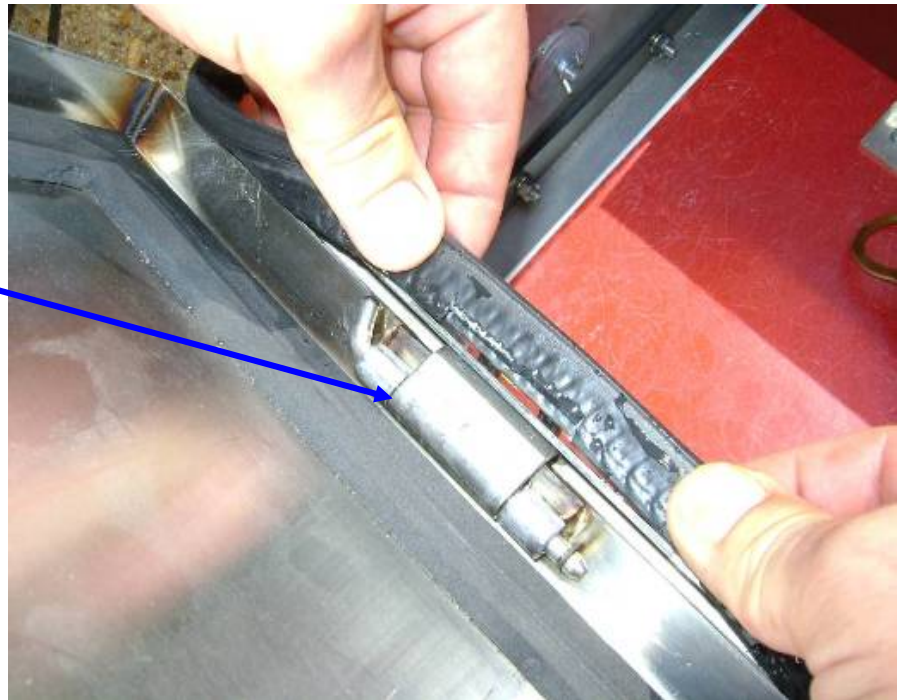

Figure 8
- Cut around hinge only on one side for clearance of hinge (see Figure 8)